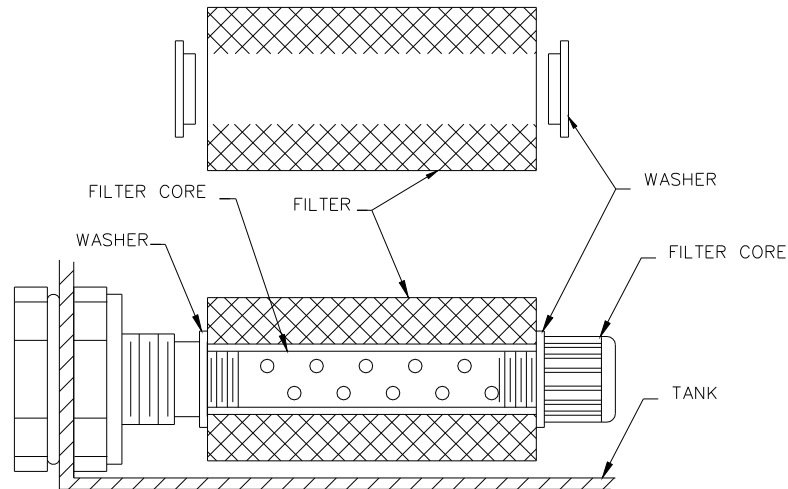

Figure 8.1
1. Unscrew the Filter Core and remove from Tank along with the Filter and Washers (see fig. 8.1), save washers.